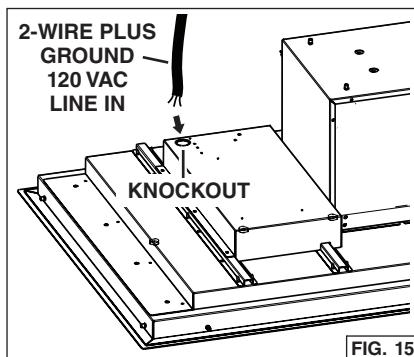

FIG. 15
1. Run 2-wire plus ground, 120 VAC electrical power cable to the  $\frac{3}{4}$ " knockout located on the back of the hood. Fig. 15.